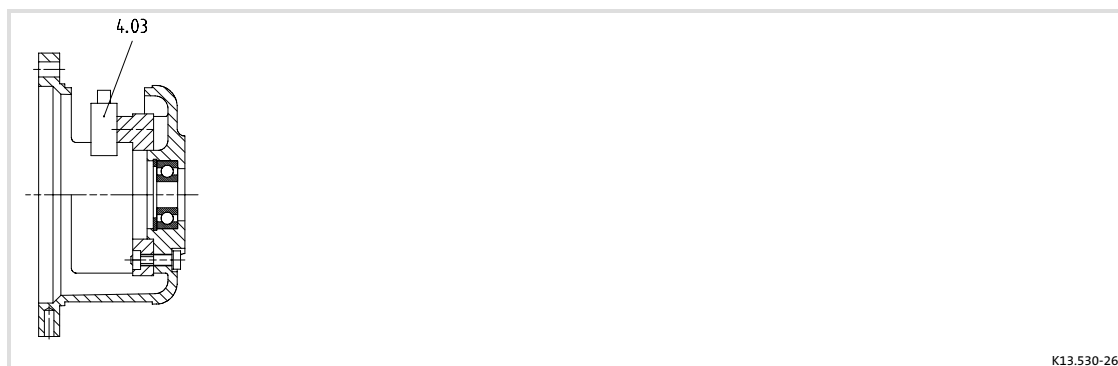

Fig. 13
4. Remove the carbon brushes (see Fig. 13) from the guide sleeves,